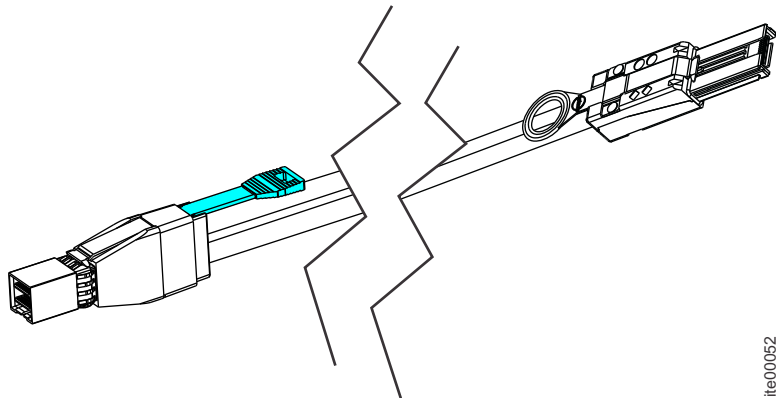

Figure 120. Mini SAS HD to Mini SAS cable
- Mini SAS HD to Mini SAS (Figure 120)